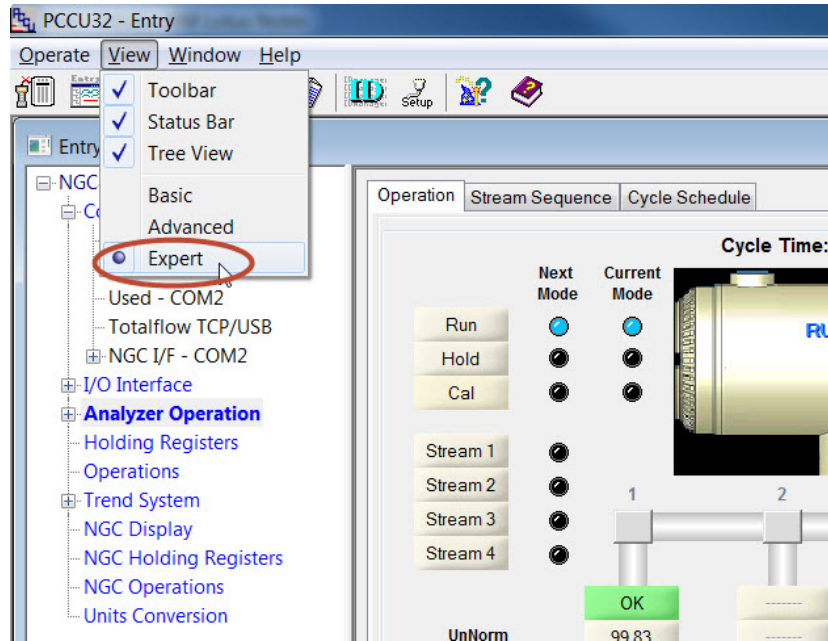

Figure 15. Change PCCU view for ABB NGC
- 4) If connection is successful (main screen shows), click on *View* on the top menu (See Figure 15).